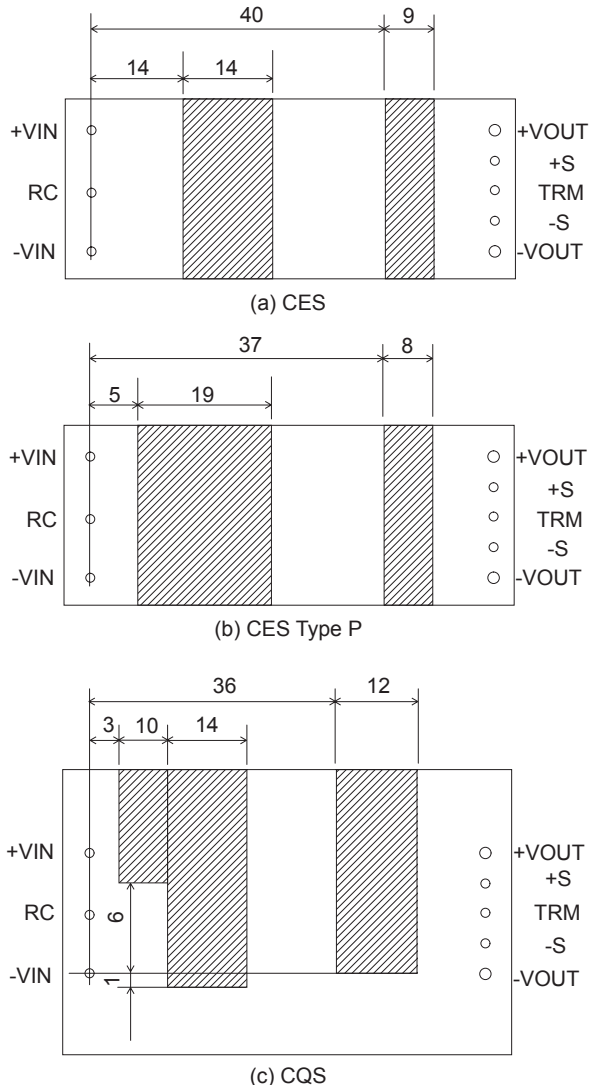

Fig.6.1 Prohibition area of pattern lay out (top view)
- Avoid placing pattern layout in hatched area in Fig.6.1 to insulate between pattern and power supply.